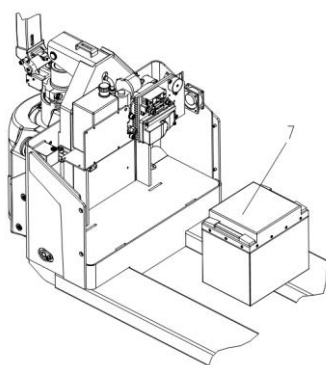

Fig.15
- (Fig.15) Remove old battery7, then put the new one following above steps.